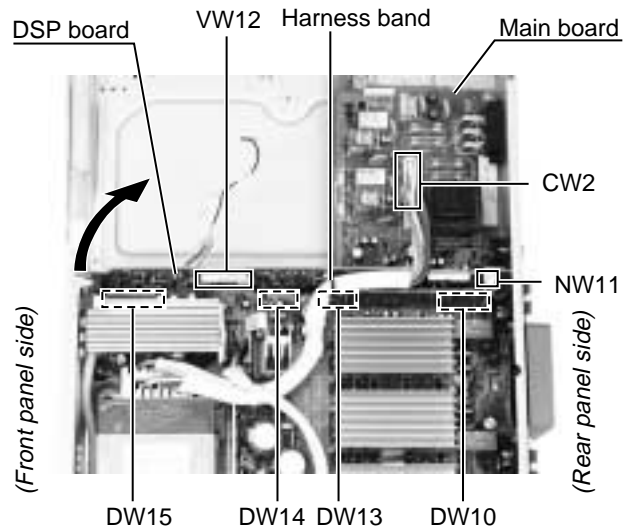

Fig.9
**■ Removing the DSP board (See Fig.9)**
2. Disconnect the harness from the connector CW2 on the main board (see fig.9) and PW1, PW2 on the DVD power board.